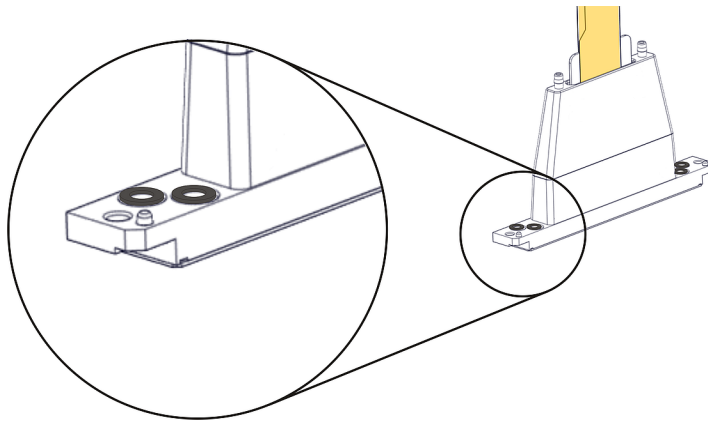

Figure 4-87 O-ring seals on the print head
17. Place four (4) O-ring seals in the replacement head (see Figure 4-87 on the previous page).